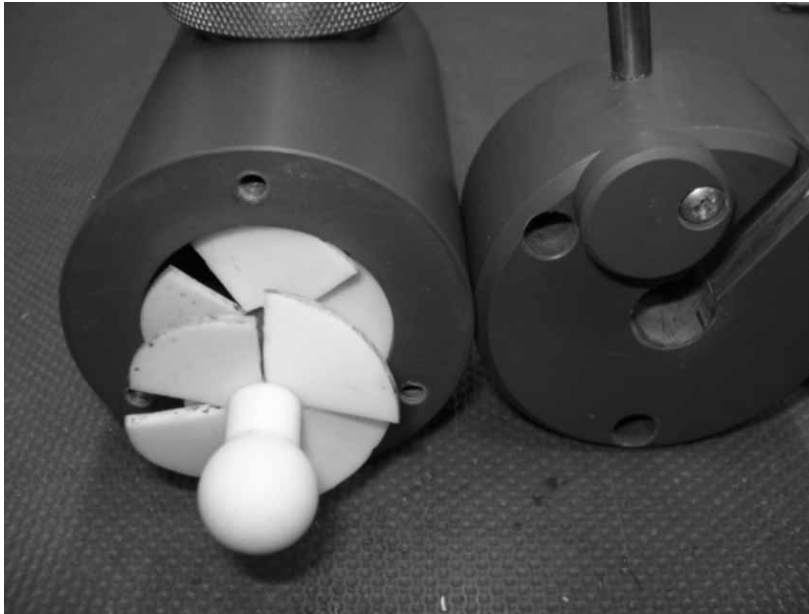

Figure 9.1.2: Mixing chamber, impact bead and impeller assembly.
2. Remove the nebuliser (1) by turning the retaining cam and withdrawing the nebuliser from the mixing chamber end cap (2). Unscrew the air inlet tube (3) from the nebuliser and place it safely to one side. Pull the fuel inlet tube (4) and drain tube (5) from their connectors on the mixing chamber end cap.
3. If the instrument has been running with the flame alight, allow 30 minutes for the burner system to cool down. When it is cool the knurled brass ring (6) may be unscrewed and the mixing chamber (7) lowered from the chimney and removed.
4. The burner (8) can be withdrawn from the burner tube (9) and the end cap removed by releasing the three socket head screws (10). The impact bead and impeller assembly (11) can be removed by releasing the centre pozidriv screw (12) in the rear plate (13) of the mixing chamber. The rear plate can be removed by releasing the three outer pozidriv screws (14).
6. Ensure that when re-assembling the mixing chamber that the baffles are positioned at 45 degrees to each other, as shown in Figure 9.1.2.